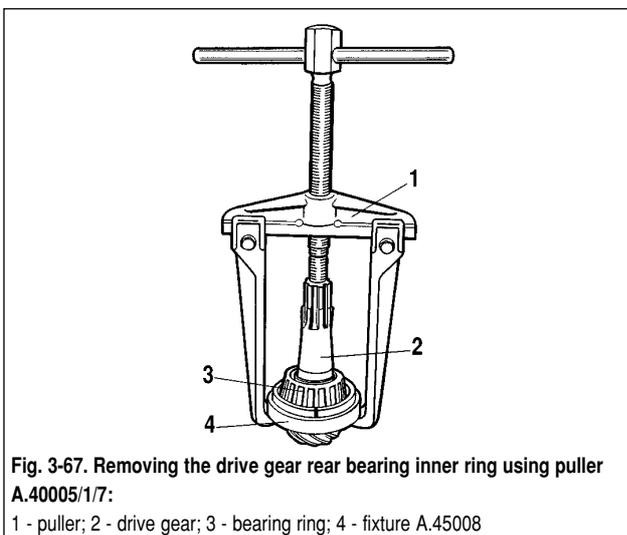

Fig. 3-67. Removing the drive gear rear bearing inner ring using puller A.40005/1/7:
- remove the distance sleeve from the driving gear and with the help of a universal puller A.40005/1/7 and tool A. 45008 (fig. 3-67) take out the inner ring from the rear roller bearing;